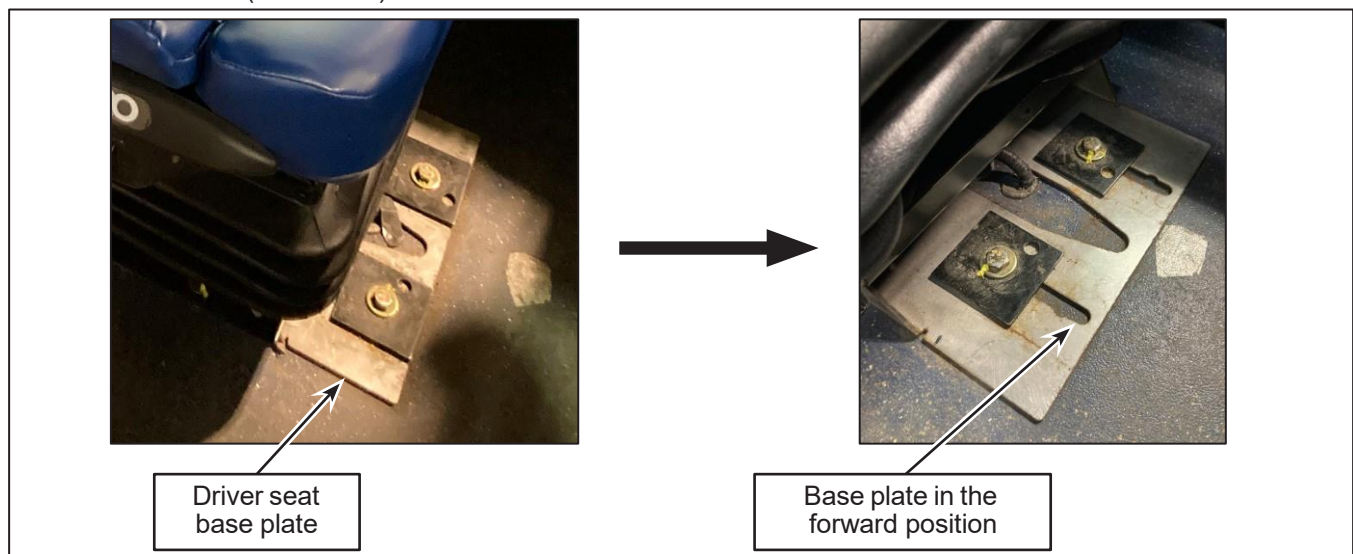

Figure 1 - Move the Seat Forward
- 1.3. Move the driver seat base plate to its most forward position (Figure 1). Torque the four bolts at 16 ± 1.5 lb-ft (22 ± 2 N·m).